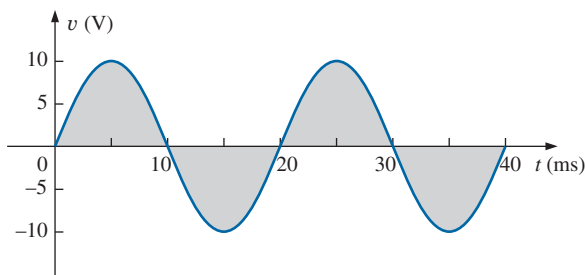

FIG. 13.85
1. For the sinusoidal waveform in Fig. 13.85: